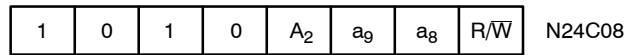

Figure 3. Slave Address Bits
The Master initiates data transfer by creating a START condition on the bus. The Master then broadcasts an 8-bit serial Slave address. For normal Read/Write operations, the first 4 bits of the Slave address are fixed at 1010 (Ah). The next 3 bits are used as programmable address bits when cascading multiple devices and/or as internal address bits. The last bit of the slave address, R/W, specifies whether a Read (1) or Write (0) operation is to be performed. The 3 address space extension bits are assigned as illustrated in Figure 3. A2 must match the state of the external address pin, and a9 and a8 are internal address bits.